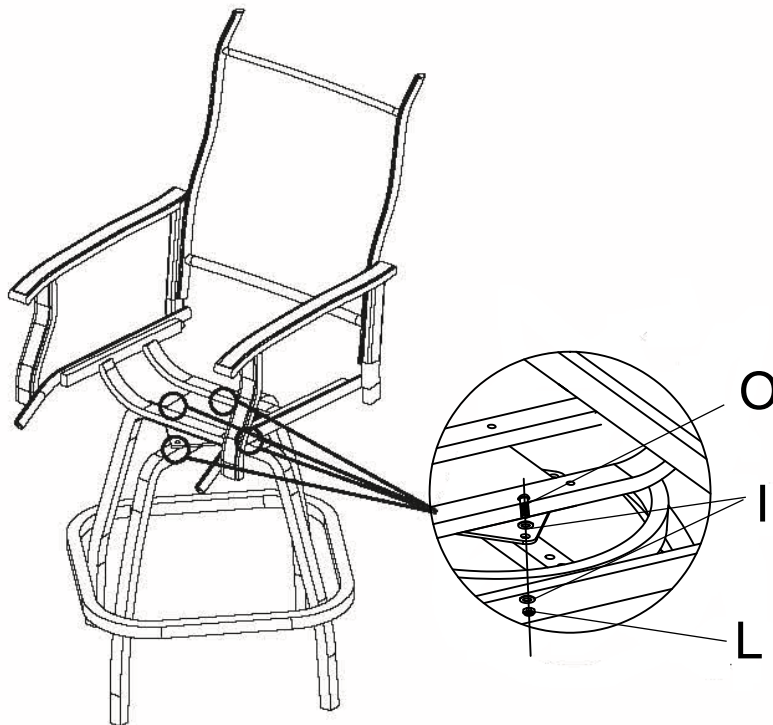

Figure 3
STEP 3 : Connect chair seat (C) and chair legs (E & F) with washers (I), bolts (O) and nuts (L) as shown in Figure 3.